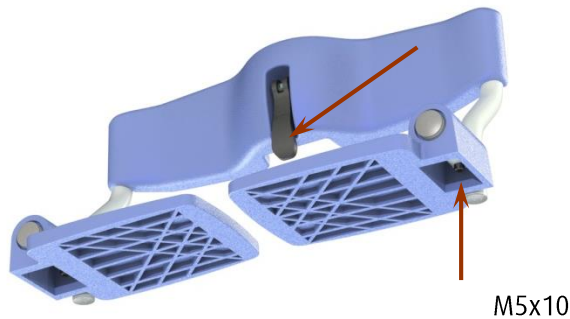

Figure 29 Foot rest
- Allan key 4mm
- Check M5x10 (bottom of plate), and replace stainless-steel bolts with ELVZ 8.8 bolts. (*See figure 29*)